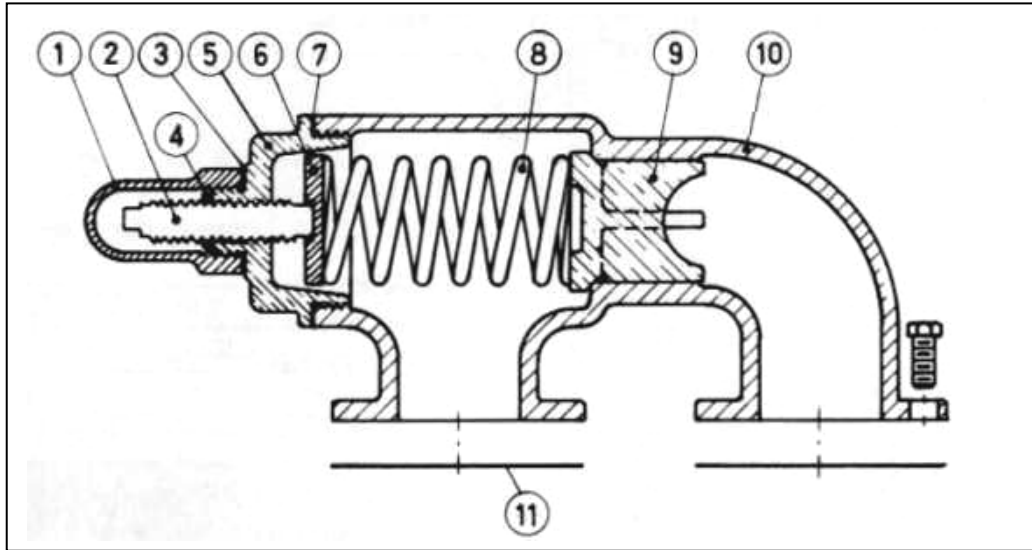

Figure 22, Loosening the set screws
4. Loosen the setscrews on the end caps and remove the outer end cap only. Figure 22, page 10.
1. Loosen setscrews over outer and inner end caps. Figure 22.